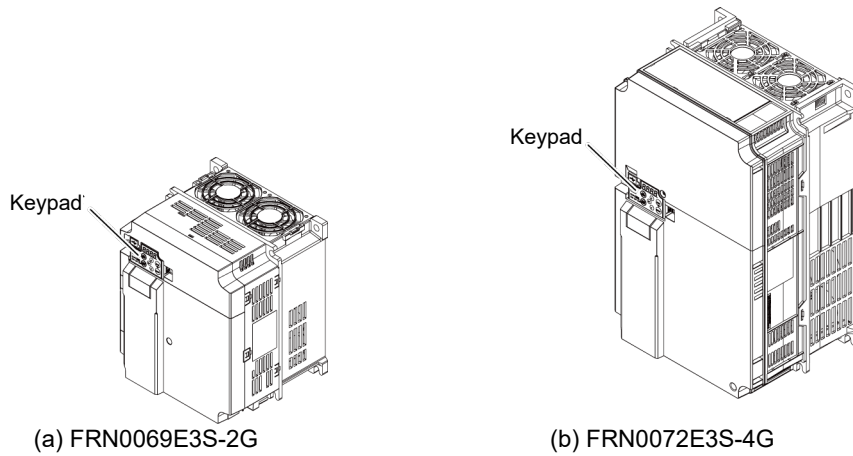

Figure 2.3-1 Attaching the keypad to the inverter main body
- Attach to the inverter main body (refer to Figure 2.3-1 (a), (b))